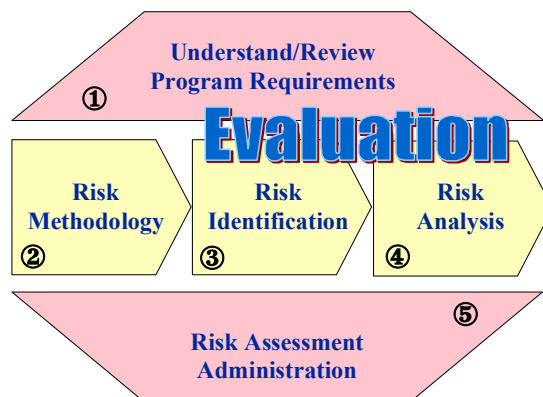

FIGURE 3. TECHNICAL ASSESSMENT
The Technical Assessment (TA) is the first step in any IRA. The TA must ensure the technical foundation is within acceptable risks and defines the technical inputs to the schedule assessment and the cost estimate. Figure 3 outlines the five steps in the ASC technical assessment process.